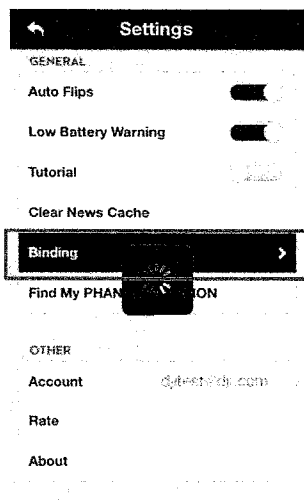
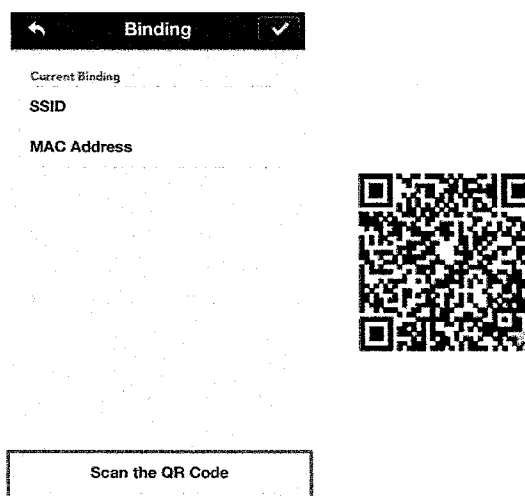

Fig.1
Fig.2 (QR code is only for example.)
5. (Fig.1) Run the DJI VISION App->Settings->General->Binding. (Fig.2) Select 'Scan the QR Code' to scan the camera QR code on the product packaging. (Fig.3) Get the camera SSID (E.g. FC200_0xxxxx) and the MAC address, select the tick ☒ on the top right corner. The range extender should automatically restart. The binding procedure is now complete.